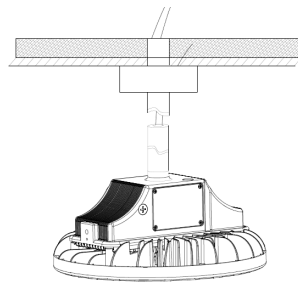

Fig . 14
- Put the main supply cord through the pipe and the adaptor into junction box. See Fig. 14.